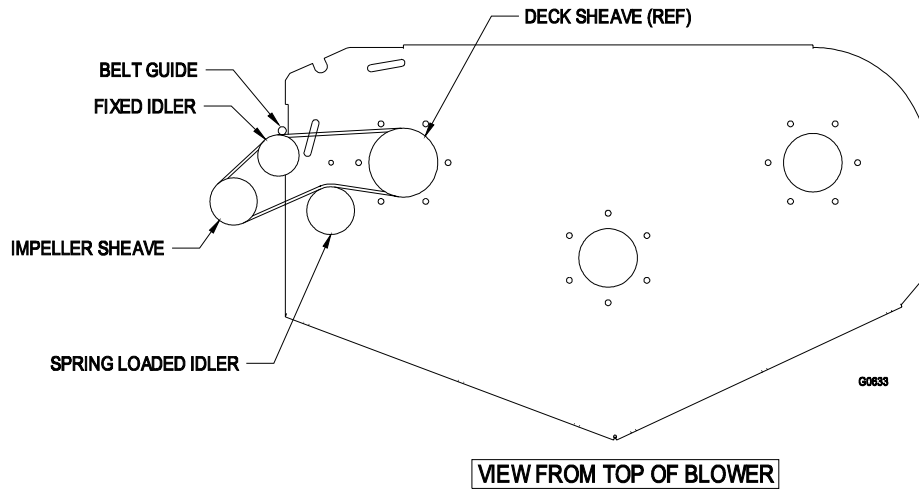

FIGURE 5
- 1) Remove the belt guide on the blower (See Figure 5)